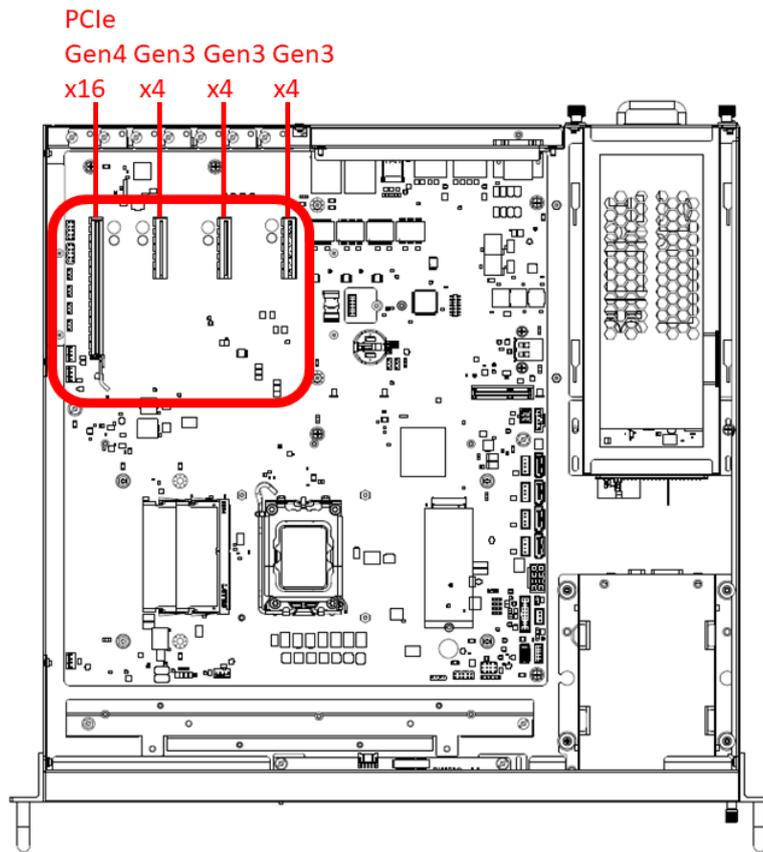

Figure 2.15 PCIe Card Position on the Main Board
2. Remove the 12 screws shown in Figure 2.15. Note that the 4 spring screws in the red boxes cannot be taken out after loosening.